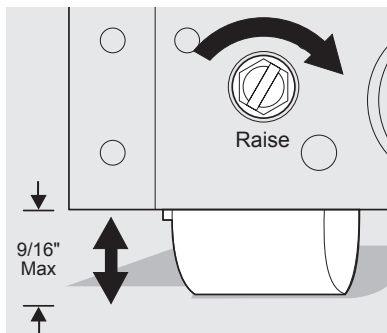

Figure 2
- 2 Use a flat-blade screwdriver or  $\frac{3}{8}$  inch socket wrench to raise or lower the front rollers (Figure 2). Do not raise the cabinet more than  $\frac{9}{16}$  inch.